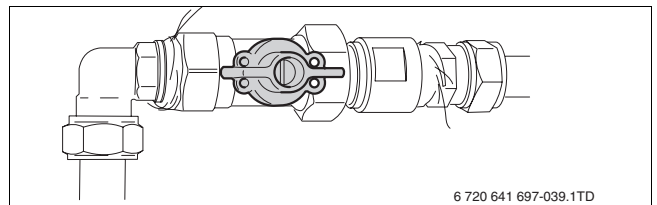

fig. 11 Gas shut-off valve open
- ▶ Open the gas shut-off valve (→ fig. 11) and check again for gas leaks.